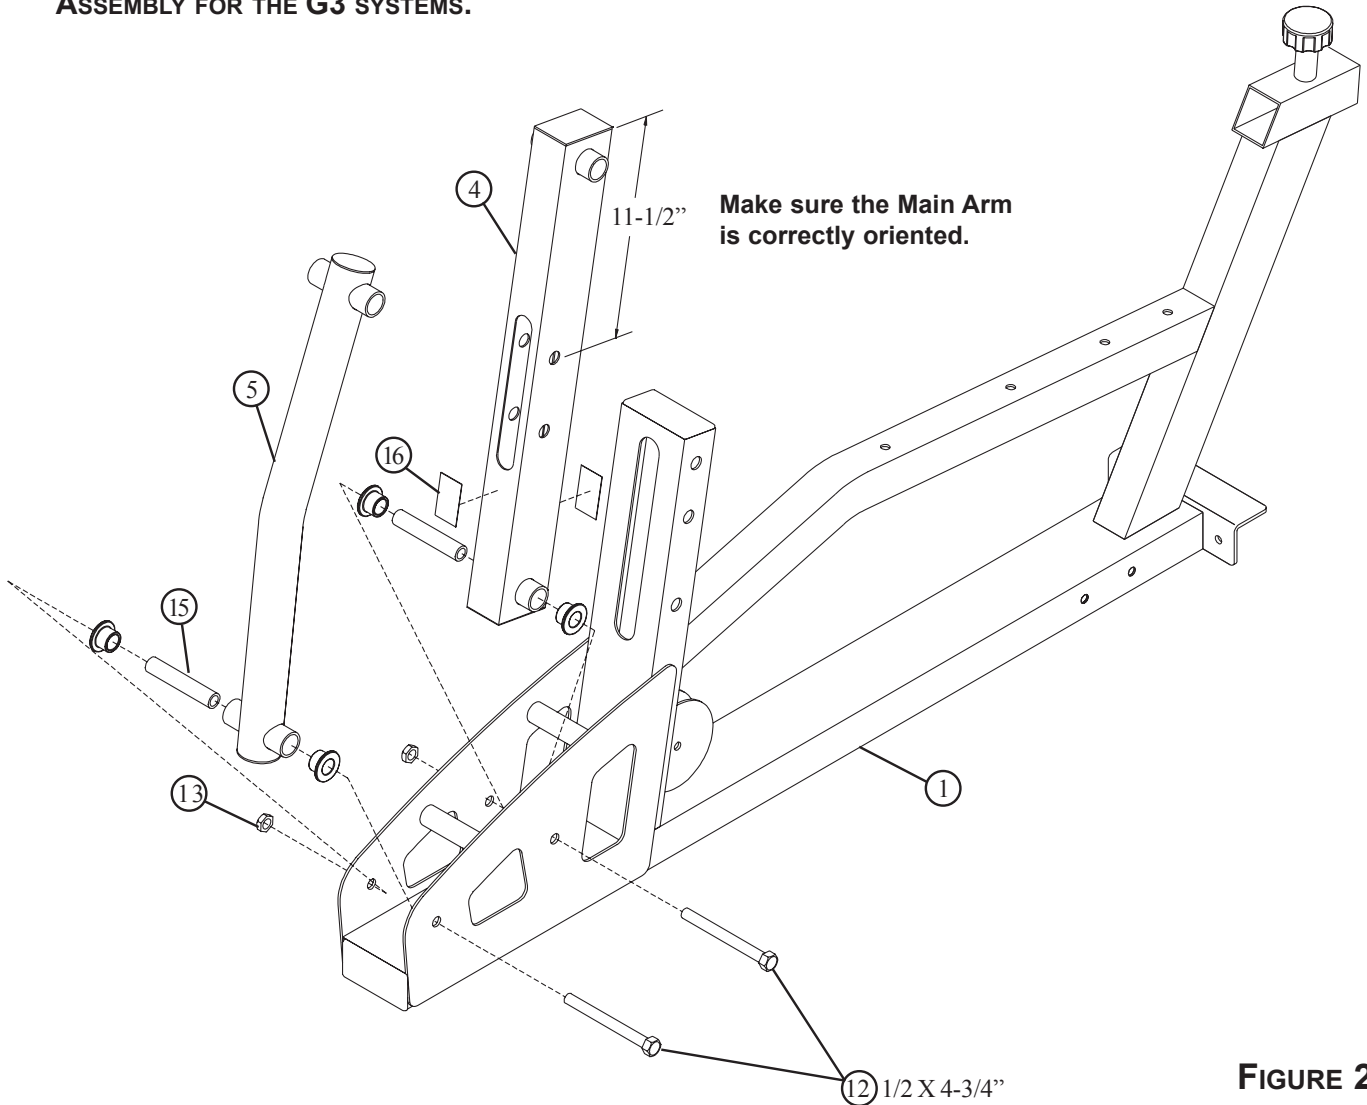

FIGURE 2
- A. Securely assemble the Second Arm (5) to the Frame (1) using one 1/2 x 4-3/4" Bolt (12), one 3/4 x 4" Shaft (15) and one 1/2" Lock Nut (13). See Figure 2.
- B. Securely assemble the Main Arm (4) to the Frame (1) using one 1/2 x 4-3/4" Bolt (12), two 3/4" Flange Bearings (14), one 3/4 x 4" Shaft (15) and one 1/2" Lock Nut (13).
Note: Make sure Main Arm (4) is oriented correctly. The top hole should be 11-1/4" from the top of the arm as shown in Figure 2.
- C. Securely assemble two 1-1/2" Bumpers (16) to each side of the Main Arm (4) where the Main Arm (4) contacts the Frame (1). See Figure 2.